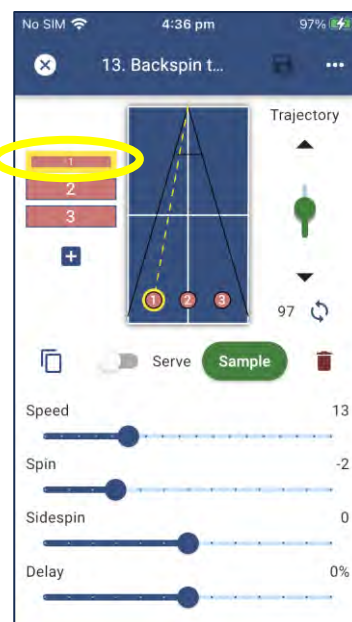

Figure 3-62
2. Select Ball 1 by touching the Ball One selector. (Figure 3-62)